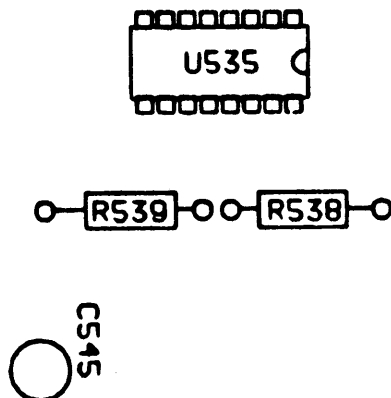

FIGURE 2
3. Insert R538 and R539 (131-0566-00, 0 ohm resistors) as shown in Figure 2.